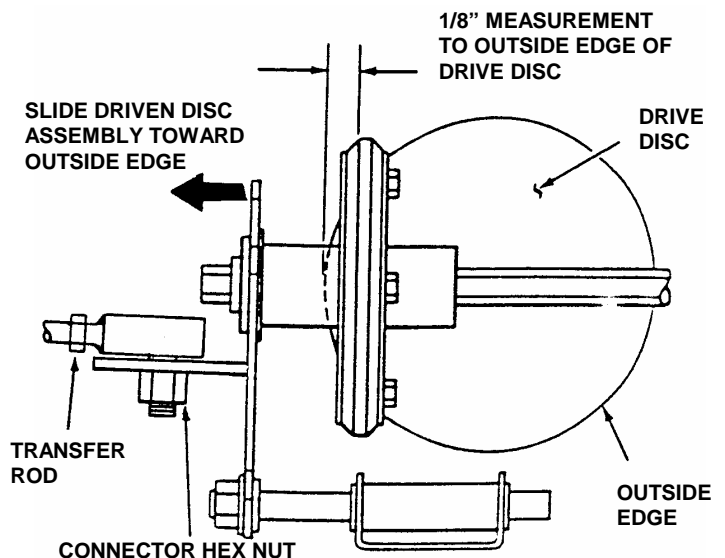

FIGURE 13
C. Slide driven disc assembly over until $1/8''$ from outside edge of drive disc. Maintaining the $1/8''$ measurement, remove any looseness from the linkage. This can be done by holding the transfer rod and applying pressure to the left, (as viewed from operators position), then retighten the connector hex-nut securely. See Figure 13. Move shift rod to the number one speed position, then back to the number six speed position. Recheck the $1/8''$ measurement described previously. Reinstall driven disc spring to driven disc assembly.